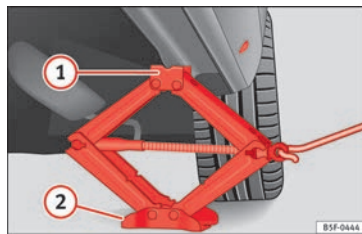

Fig. 74 Strut: mounting the jack on the vehicle.
• Turn the jack*, located below the strut support point, to raise it until tab ① »» Fig. 74 is below the housing provided.
• Align the jack* so that tab ① “grips” onto the housing provided on the strut and the mobile base ② is resting on the ground. The base plate ② should fall vertically with respect to the support point ①.